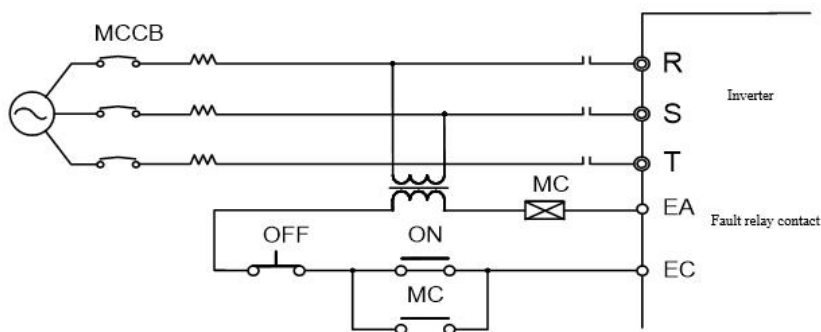

Fig. 3-4 Connection of Input Circuit Breaker
- When the MCCB is used with multiple inverters or other devices, connect the protection output relay contact of the inverter in series to the power contactor coil, as shown in Fig.3-4, to disconnect the power supply according to the protection signal.
Connect the electromagnetic contactor that matches the power of the inverter, as shown in Fig. 3-4.